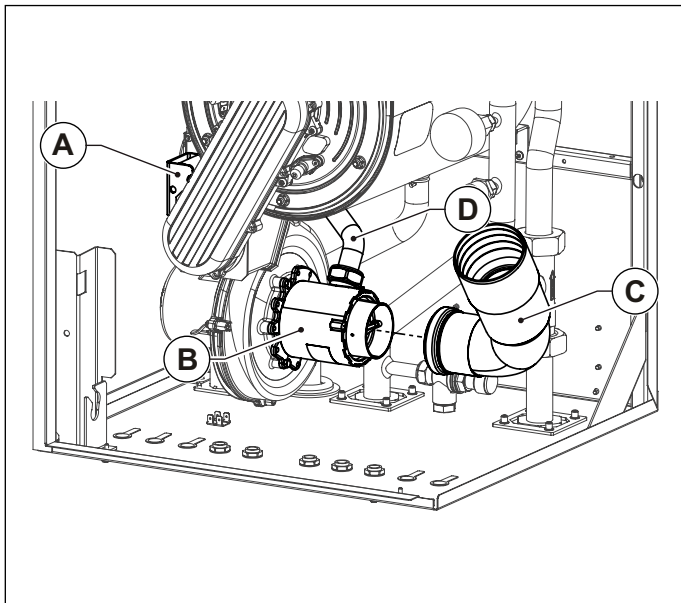

Fig. 41 Intake pipe
- Refit the intake pipe **C** to the mixer (KR 85 only) (see Fig. 41 Intake pipe).
- Disconnect the gas pipe **D** from the mixer **B** (see Fig. 41 Intake pipe).
- Connect the **D** gas pipe to the mixer (see Fig. 41 Intake pipe).